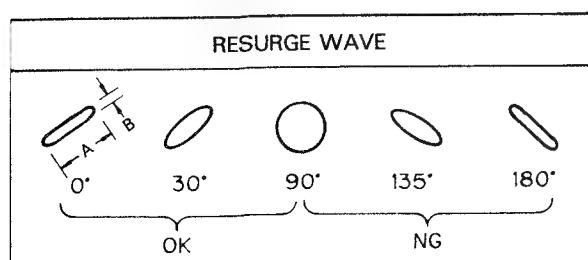

Fig. 2-2
- 2) Playback the test tape; adjust the azimuth screw so that section A of the resurge wave form is maximum and section B is minimum. Fig. 2-2